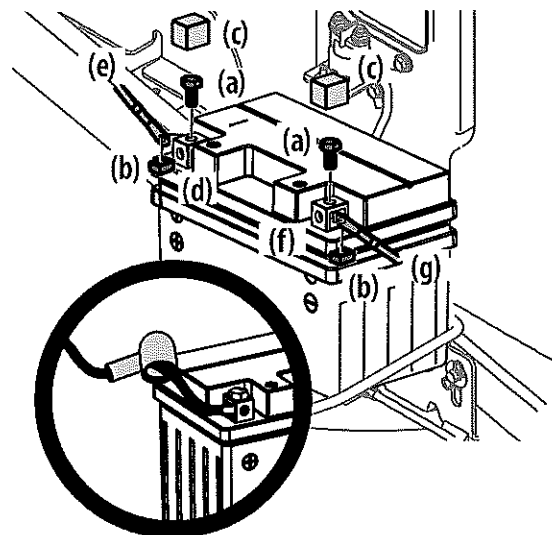

Figure 13
1. Remove the hex screws (a) and square nuts (b) located either on the end of the wiring harness or in the bag with this manual. Retain the hardware for later instructions. See Figure 13.
2. Remove the plastic cover (c), if present, from the positive battery terminal (d) and attach the red cable (e) to the positive battery terminal (d) with one of the hex screws (a) and square nuts (b), from Step 1. Use a Phillips screw driver. See Figure 13.
3. Remove the plastic cover (c), if present, from the negative battery terminal (f) and attach the black cable (g) to the negative battery terminal (f) with the remaining hex screw (a) and square nut (b). See Figure 13.
4. Position the red rubber boot over the positive battery terminal to help protect it from corrosion. See inset in Figure 13.